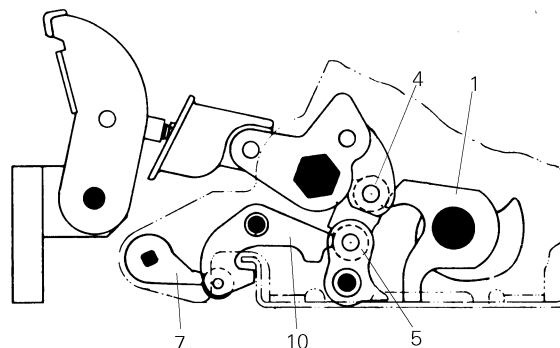
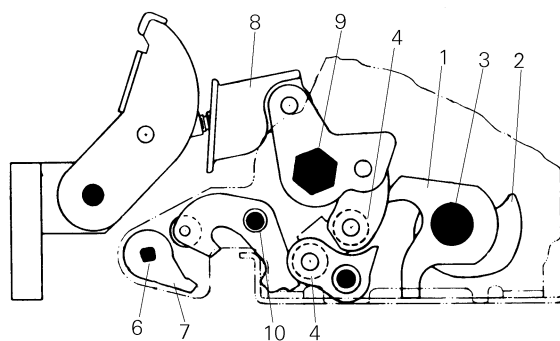
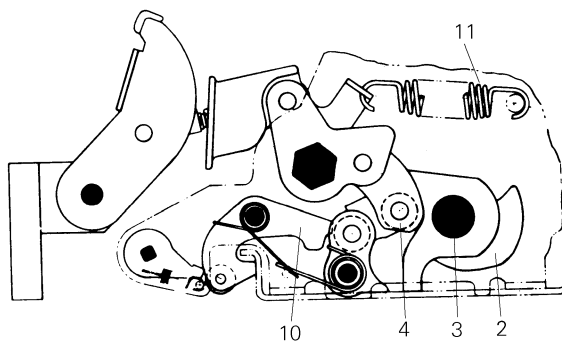

Figure 11. Breaker mechanism in the CLOSED position.
Figure 12. Breaker mechanism in the TRIPPED position.
Figure 13. Breaker mechanism in the RESET position.
Figure 11, Figure 12, and Figure 13 show the mechanism components in the CLOSED, TRIPPED, and RESET conditions, respectively. Numbers in parentheses refer to the indicated items in the figures listed in Table 5. The closing spring is in the charged position for all of these details.
**Closed Position** – The movable contacts are pushed against the stationary contacts by the toggle linkage, as illustrated in Figure 11. The toggle linkage is held in position through the engagement of its cam roller (4), with the prop (1), the secondary latch/roller (5), the secondary latch (10), and the trip latch (7).
**Tripped Position** – The mechanism goes from the CLOSED position to the TRIPPED position, illustrated in Figure 12, when the trip shaft (6) is rotated by either the manual trip button or one of the other trip devices. The trip latch (7) is assembled to the trip shaft. When the trip shaft rotates, the trip latch disengages from the secondary latch roller (5). The secondary latch pivots, resulting in the collapse of the toggle linkage. This collapse, along with the opening spring (11), shown in Figure 13, causes the breaker contacts to open.
**Reset Position** – The closing cam (2), assembled to the cam shaft (3), is rotated by the Charging Motor, manual charging handle, or maintenance handle. The cam engages the cam roller and partially extends the toggle linkage. This allows the secondary latch (10) to pivot against the front frame, as illustrated in Figure 13, leaving a gap between the trip latch (7) and secondary latch roller (5). The secondary latch is now in a position to engage both the trip latch and cam roller (4).
The breaker closes when the closing springs discharge and rotate the cam (2) against the cam roller (4). The toggle linkage is fully extended, pivoting the secondary latch (10) from the front frame and engaging it with the trip latch (7) and cam roller (4), as shown in Figure 11.
Table 5. Key to numbered parts in Figure 11, Figure 12, and Figure 13.